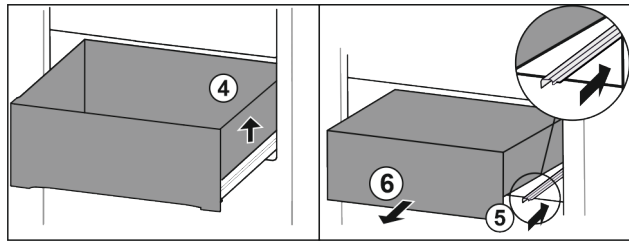

Fig. 93
- ▶ Lift drawer on the right. Fig. 93 (4)
- ▶ Insert right rail. Fig. 93 (5)
- ▶ Remove drawer to the front. Fig. 93 (6)